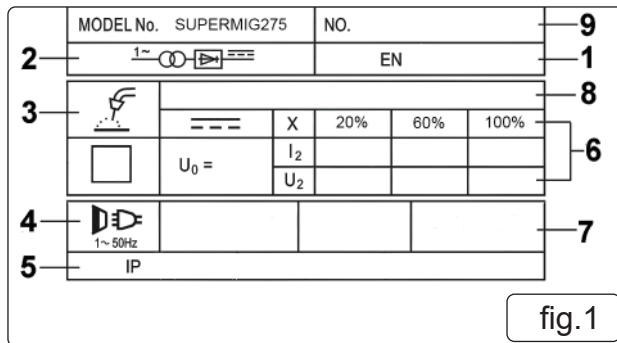

fig.1
NOTE: The ratings plate detailed below (fig.1) is an example only intended to assist with the explanations of the symbols. To determine the correct technical values of the machine refer to the data plate on your machine and the specification table above.
6.1.1. Before making any electrical connections, ensure that the mains voltage and frequency of the supply matches the electrical specification of the welding set as stated on the welding set's rating plate (fig.1).